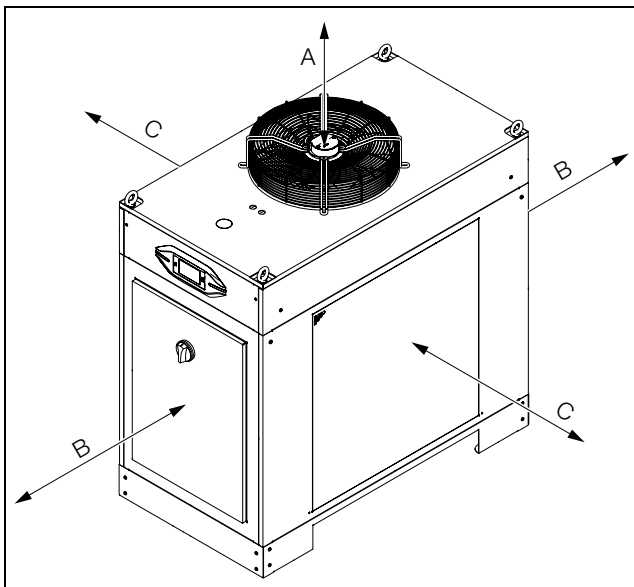

Fig. 19: Minimum distances
- The opening on top of the chiller must be freely accessible to enable the unhindered expulsion of hot air (see fig. 19). To allow connection of the supply lines and facilitate maintenance and repair work, the minimum distances shown under fig. 19 should be adhered to.
- In order to avoid an "air short-circuit" (mixing of air intake and waste air) and ensure full cooling performance, the minimum distances shown under fig. 19 should likewise be adhered to.